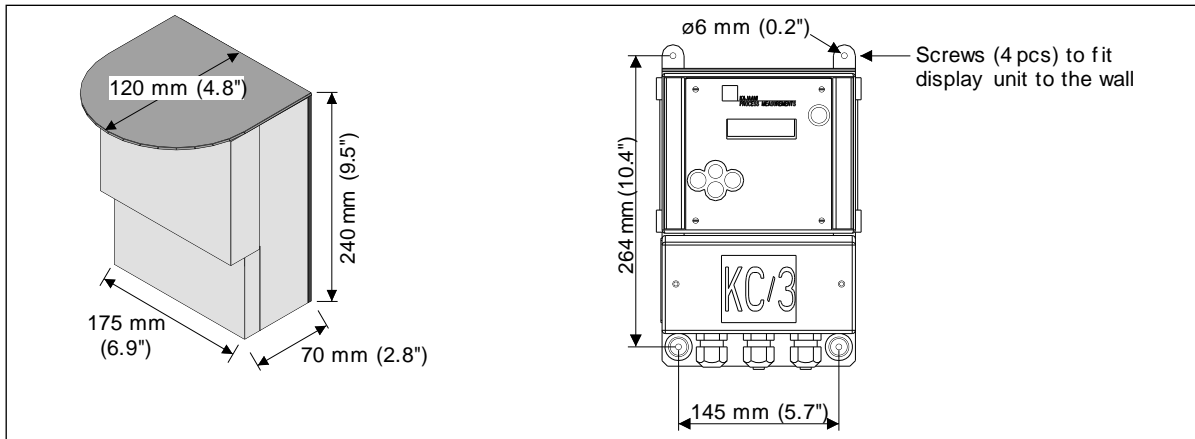

Figure 2.10. Dimensions of the display unit.
The display unit part of the KC/3 can be located anywhere near the sensor unit so that it can be easily accessed by mill personnel. Connection cable length is 10 m (33'). Protection class of the display unit enclosure is IP65 (NEMA 4X). Mount the display unit to the wall with four (4) screws (See figure 2.10).